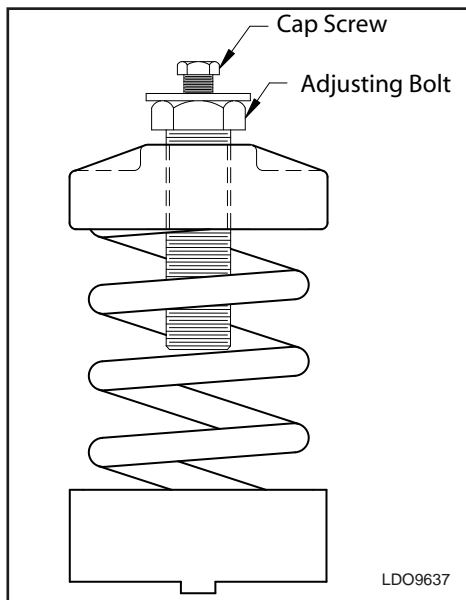

FIG. 3-5 – SPRING ISOLATOR
- Standard fan isolation consists of spring isolators (see Fig. 3-5) mounted under the internal fan assembly.
2. To adjust isolators (see Fig. 3-5): First loosen cap screws on top of adjustment bolt. Then turn adjusting bolt. Next, check operational height and level of frame. Repeat this procedure until operational height and frame is level. Finally, tighten cap screws. (See IOM Section 5, "Isolator Adjustment" for additional instructions). ►